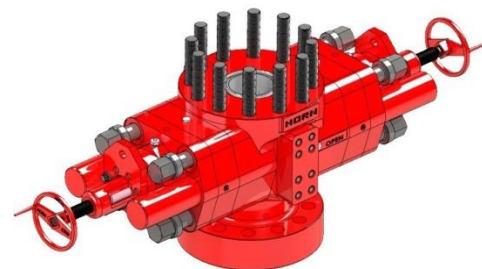

Figure 7: Bonnets Bolts Loosened
- i. Bolts can remain in the bonnets. (figure 7)